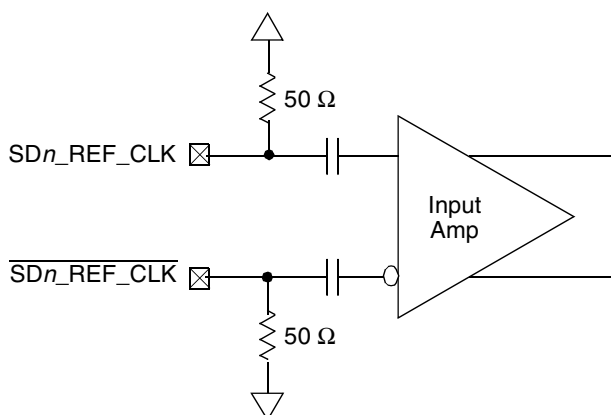

Figure 49. Receiver of SerDes Reference Clocks
Figure 49 shows a receiver reference diagram of the SerDes reference clocks.
- The $\overline{\text{SDn_REF_CLK}}$ and SDn_REF_CLK are internally AC-coupled differential inputs as shown in Figure 49. Each differential clock input ($\overline{\text{SDn_REF_CLK}}$ or SDn_REF_CLK) has a 50 Ω termination to SGND_SRDS_n (xcovvss) followed by on-chip AC-coupling.